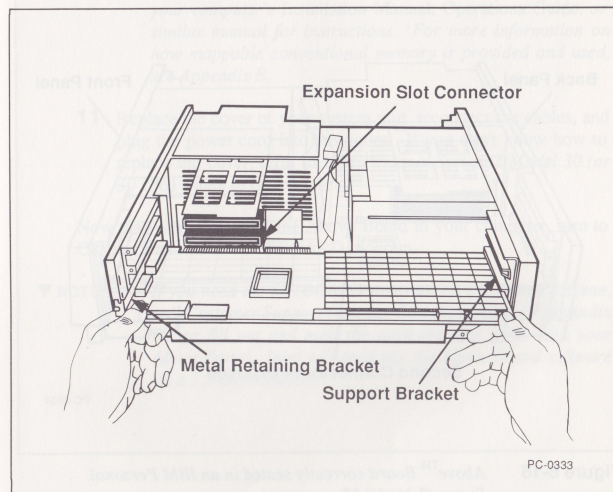

Figure 6-15 *Inserting the Above™ Board in a Model 30 expansion slot*
- 8 Line up the Above Board so the metal retaining bracket fits into the exposed cutout and the edge opposite the metal retaining bracket fits into the support bracket inside the front panel of the computer. Hold the board at each corner of the top and push firmly as shown in Figure 6-15.